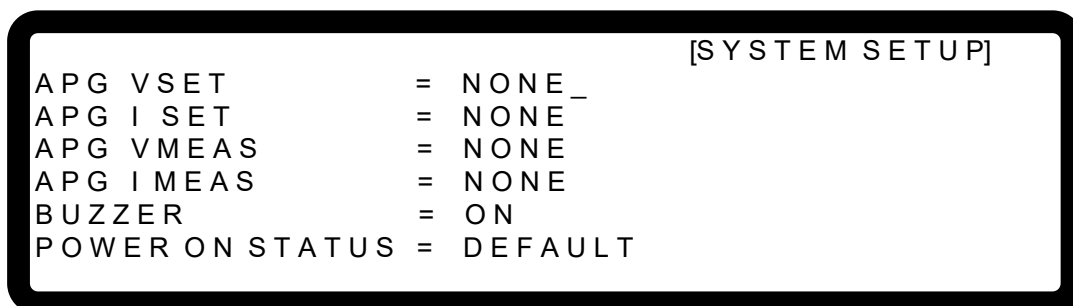

Figure 3-6
1. Use “”, “” keys to move the cursor to the column to be set as Figure 3-6 shows.